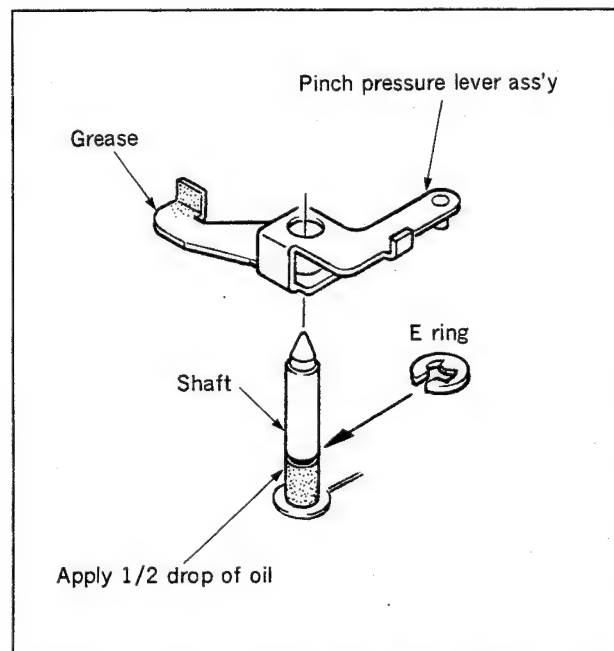

Fig. 4-24-4 Pinch pressure lever ass'y installation
- 1) Smear grease to the point indicated in Fig.4-24-4.
- 2) Smear 1/2 a drop of oil to the shaft below the groove, shown in Fig.4-24-4.